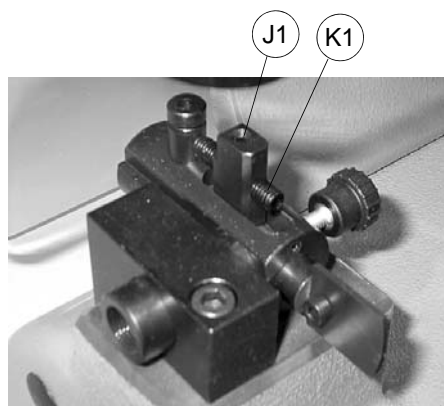

Fig. 9
- loosen the screw (J1) (fig.9).